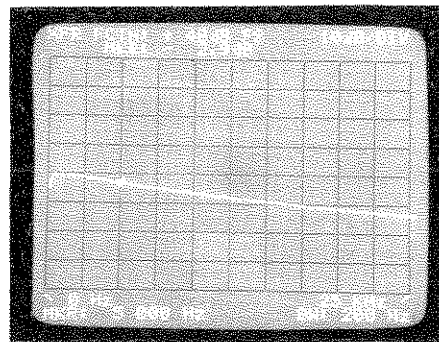

Figure 3-14. Transfer Function for a Two Port Network.
- f. For example, turn the MARKER POSITION control so that the marker is in the vicinity of 5300 Hz. This is the approximate -3 dB point of the transfer function (see Figure 3-14).